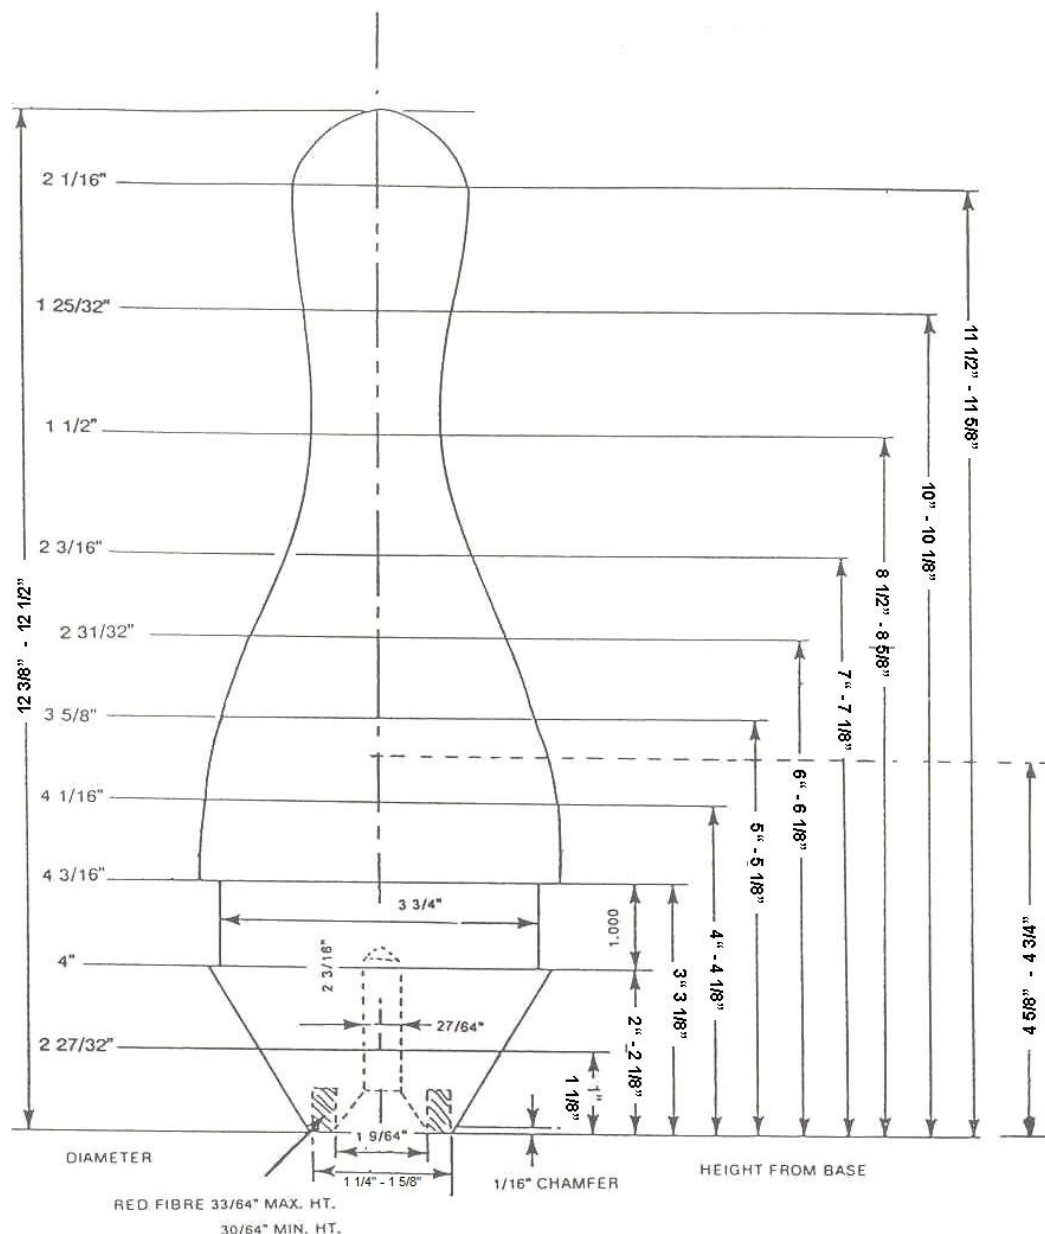

FIGURE 7
(See Figures 7 and 7A)
- DESIGN:** The height of each pin shall be $12\frac{3}{8}$ " to $12\frac{1}{2}$ ". Pins shall conform strictly to the specifications listed below and detailed in Figure 7. Tolerances are allowed to a maximum of $\frac{3}{64}$ ". The taper from measurement point to measurement point should be gradual so that all lines will produce a graceful curve.